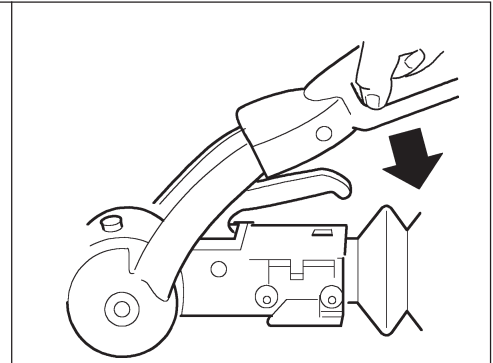

Fig. 2
- Press the red stabilising lever down. The AKS is now ready for the road (Fig. 2).